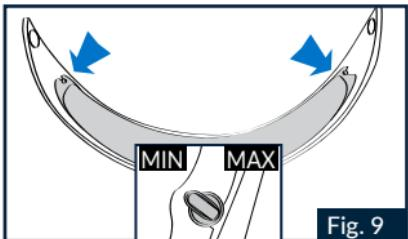

Fig. 9
1.2 Make sure that the inner surface of the visor is clean and check that the pin adjustment external levers are turned inwards (Fig.9).
Check the correct PINLOCK® inner visor assembly by opening and closing the visor and ensuring that they do not move with respect to each other. Should the PINLOCK® inner visor not be tightly fixed to the visor, simultaneously move, gradually and not excessively, both external adjustment levers turning them upwards, to increase the stretch (Fig.9). The maximum stretch is achieved when the pin adjustment external levers are placed outwards.